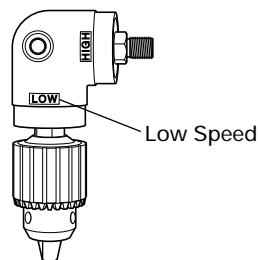

Fig. 9
- At this setting, the drilling speed is decreased to about 70% and the drilling torque increased to about 150%. (Fig. 9)